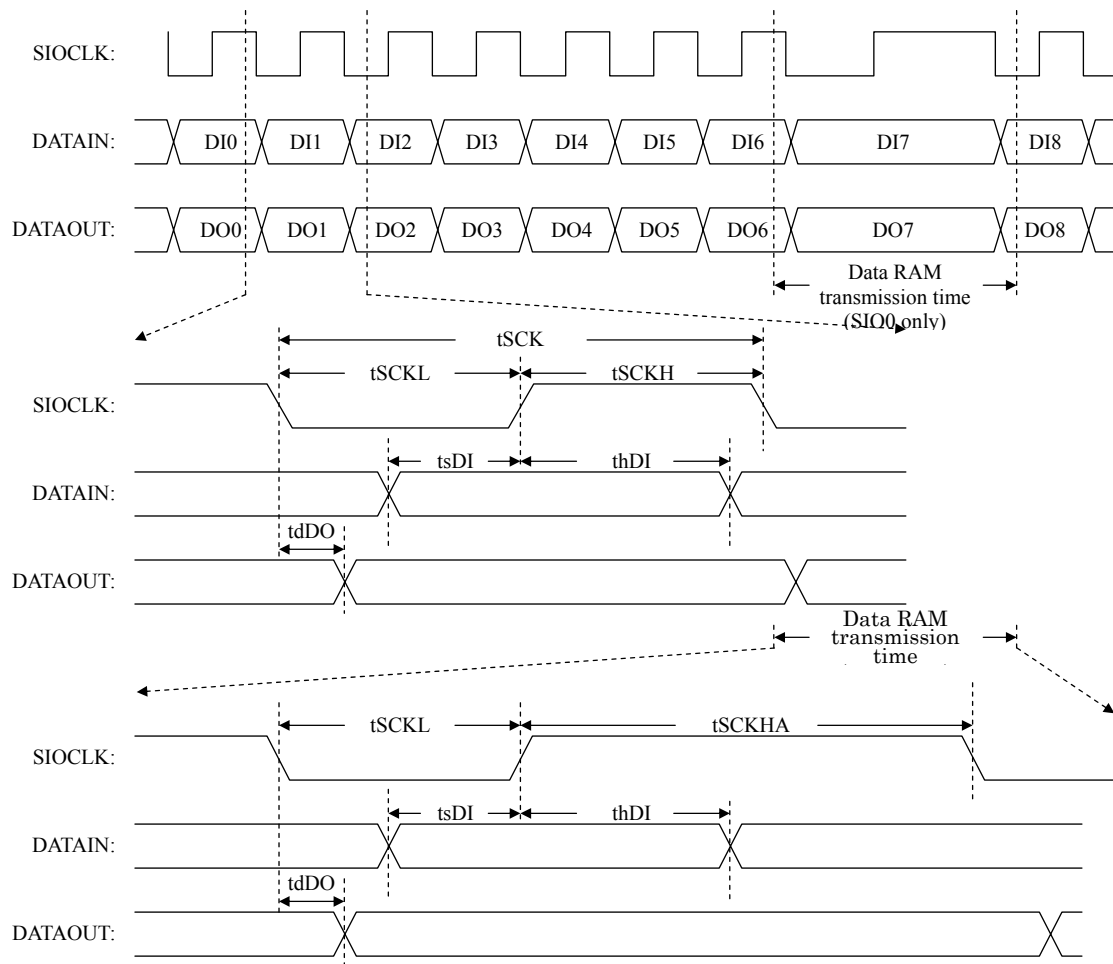

Figure 4 Serial I/O wave.
• At the CMOS output • Continuous data transmitting and receiving mode • See the figure 4.
(See the figure 4)